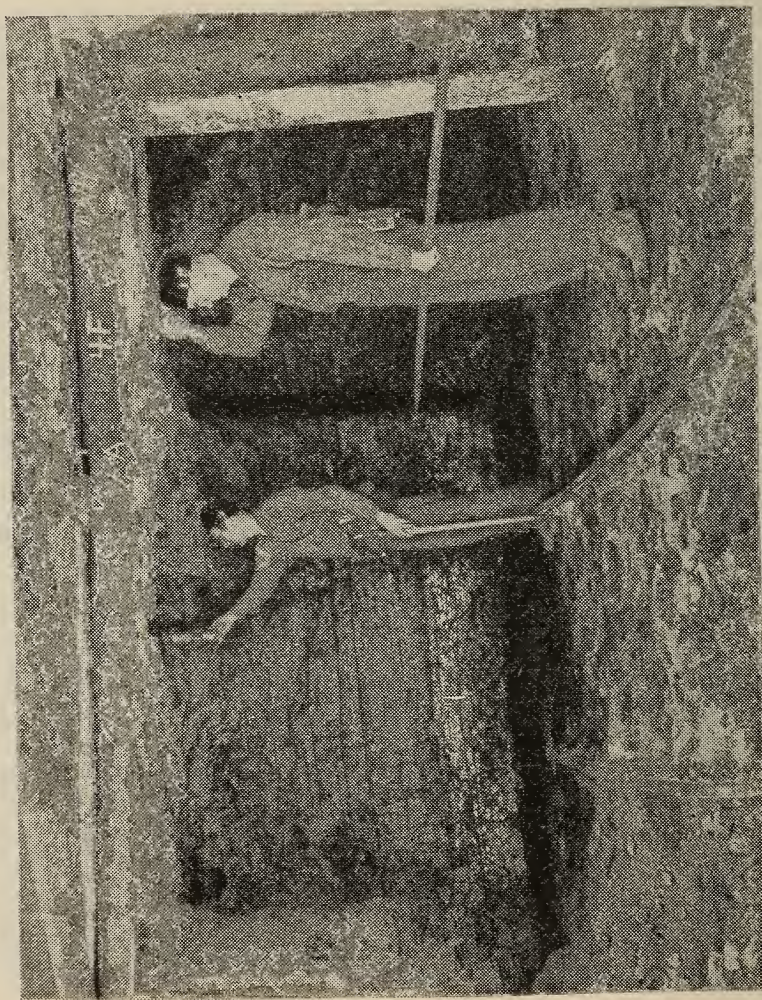

FIGURE 34.—The flame safety lamp is commonly used to detect explosive gas and oxygen deficiency in coal mines.
A. Permissible flame safety lamp. (See fig. 34.)